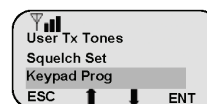

Figure 1
2. Access the Program Mode (See Figure 1 and 2)